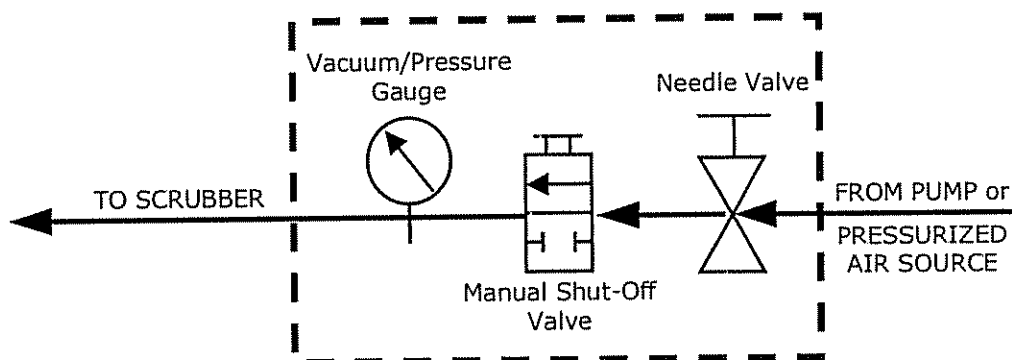

Figure 11-4: Simple Leak Check Fixture
- This procedure requires a pressurized source of air (chemical composition is unimportant) capable of supplying up to 15 psia an a leak checking fixture such as the one illustrated in Figure 11-4.